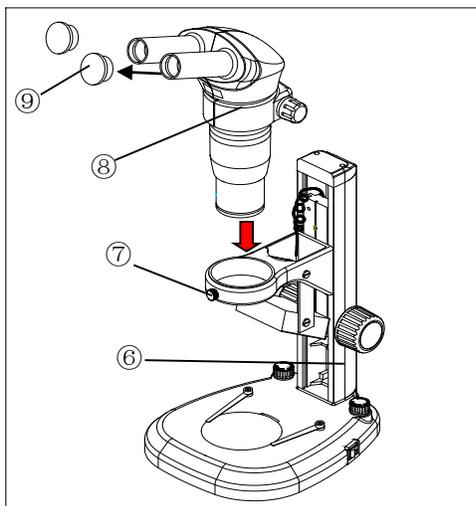
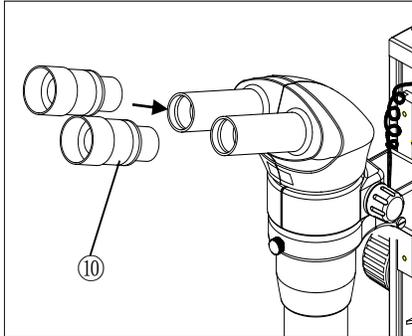
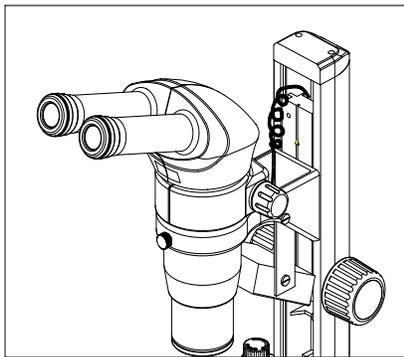

Fig.3
Fig.4
Fig.5
## 2.2.2. Mounting binocular head (Fig. 3)
## 2.2.3. Mounting eyepieces (Fig. 3, Fig. 4, Fig. 5)
1. Remove the eyepiece dust caps (9) and gently insert two adjustable eyepieces (10) into the eyepiece sleeves until they stop, as in Fig.4.
Use with eye shades in their normal folded-down position. This will prevent eyeglasses from being scratched by the eyepiece as in Fig 5.